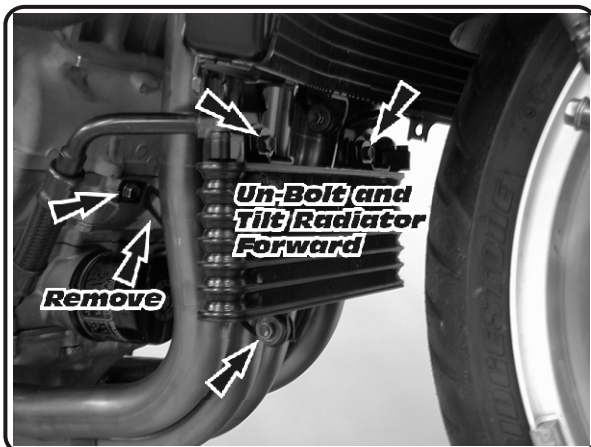

Fig. 3
- 2 Remove lower oil cooler bracket and radiator mount bolts and tilt radiator forward slightly. (See Fig. 3)
- 4 Remove the orange cap on the grey wire harness plug by pressing the small orange tabs apart and pulling the orange cap off (See Fig. 3).